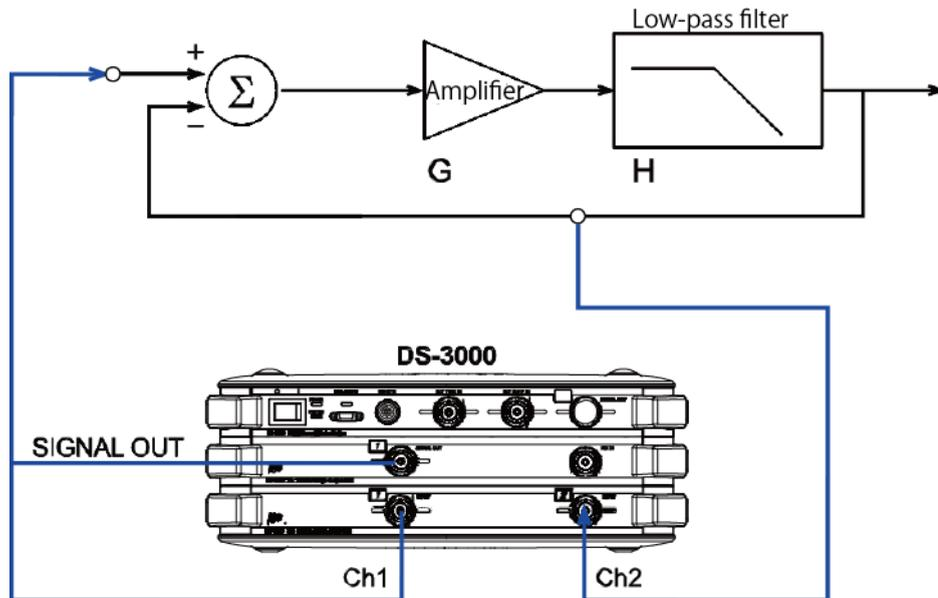

Figure 6: Loop gain measurement method (calculation method)
Loop gain (GH) is calculated from the calculation by measuring the closed loop transfer function H_C of the control system by the connection as shown in figure 6.